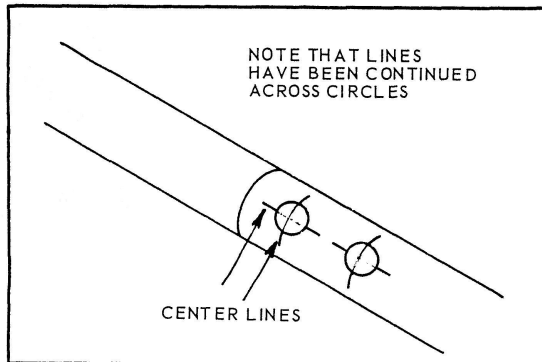

FIGURE 3
Step 4. Trace the circles and fin slots onto the body tube and continue the center lines across the circles as shown in Figure 3.